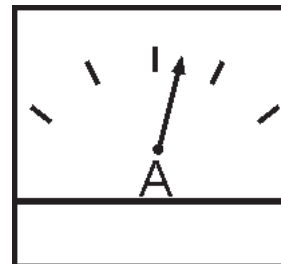

Figure 62. Ammeter (Load)
18. Observe the generator's ammeter (Figure 62) and verify it reads the anticipated amount of current with respect to the load. The ammeter will only display a current reading if a load is in use.